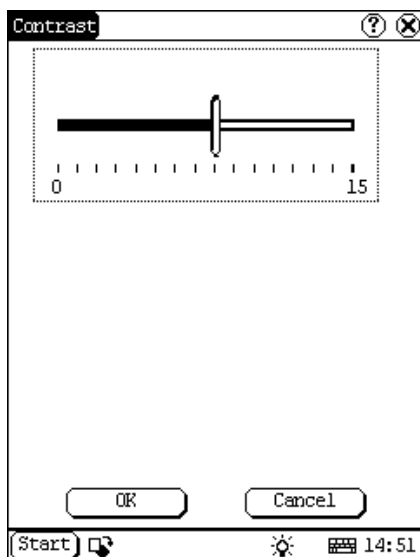

Figure 5-40
- 1) In the Control Panel interface, click 'Contrast' icon to open the Contrast interface. See Figure 5-40.